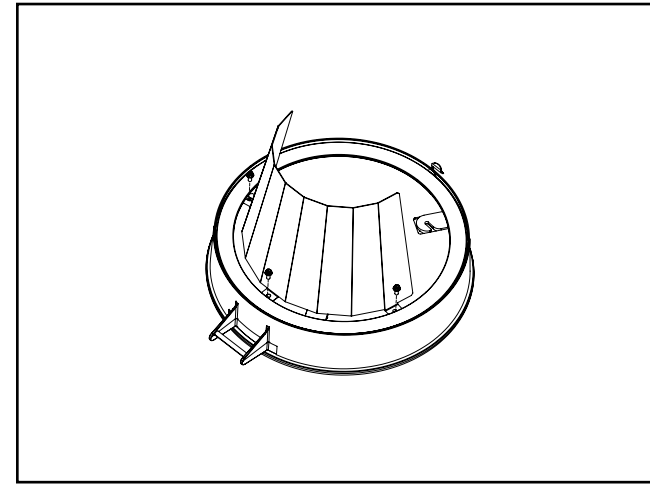

Figure 9.
- Fasten house side shield to cover plate with three #8-32 screws. (Figure 9)